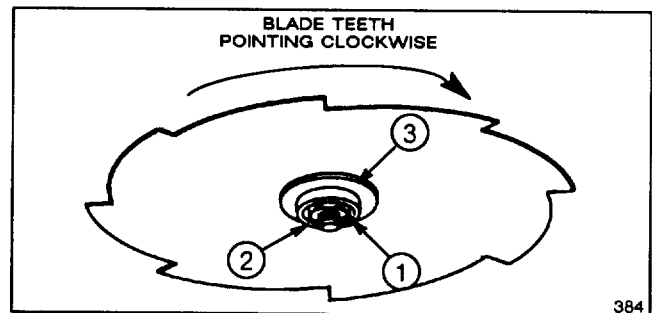

Figure 1
2. Install blade (teeth pointing in clockwise direction when viewed from bottom), mounting plate, and nut onto shaft (Fig. 1).
5. Insert cotter pin through hole in shaft and wrap ends around shaft (Fig. 1).
4. Insert cotter pin through hole in shaft and wrap ends around shaft (Fig. 1).